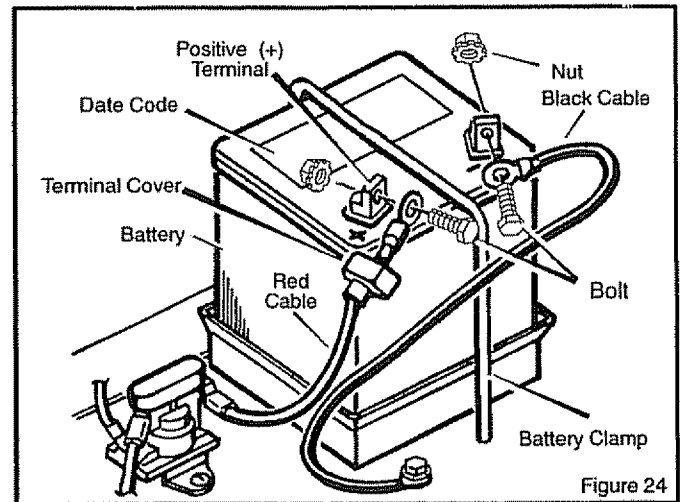

Figure 24
1. Remove the **black cable** from the negative (-) terminal (Figure 24).